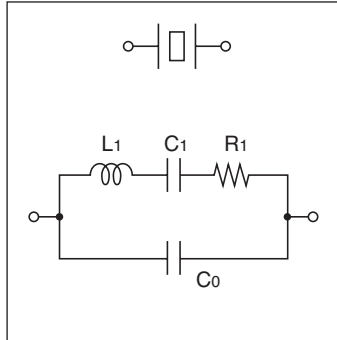

Figure 9
1. DRIVE LEVEL (DL)
- The drive level of a crystal unit is shown by the level of the operating power or the current consumption (see Figures 9, 10, and 11).